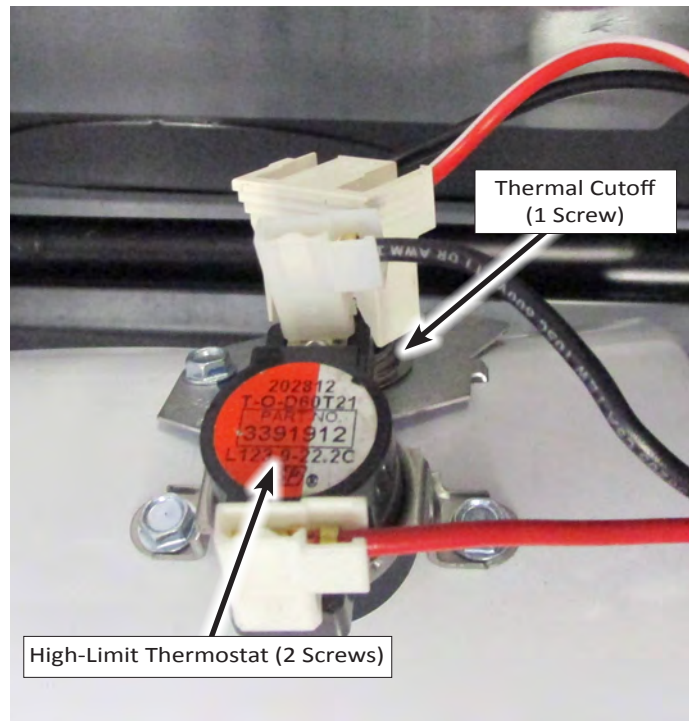

Figure 5 - Gas Burner Thermals
7. To remove the High-Limit Thermostat or the Thermal Cutoff (see Figure 5):
- Disconnect the two (2) wire connectors from the component terminals.
- Remove the two (2) screws from the High-Limit Thermostat, or the single screw from the Thermal Cutoff. Remove the component from the venturi.